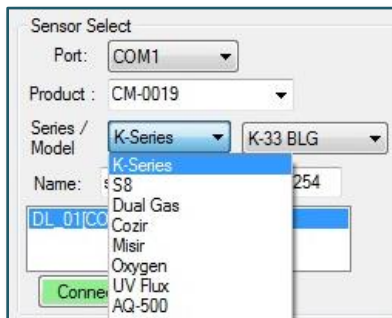

Figure 12: Series dropdown menu
- **Series** – if you selected a part number on the **Product** field above, then the proper sensor series is populated automatically. Alternatively, you can select the sensor series from this dropdown menu, as shown in **Figure 12** below.